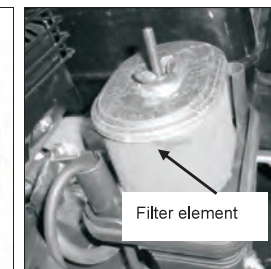

Fig. 20C
3. Wash filter element in soap water. (Fig.20C) **DO NOT USE GASOLINE!**